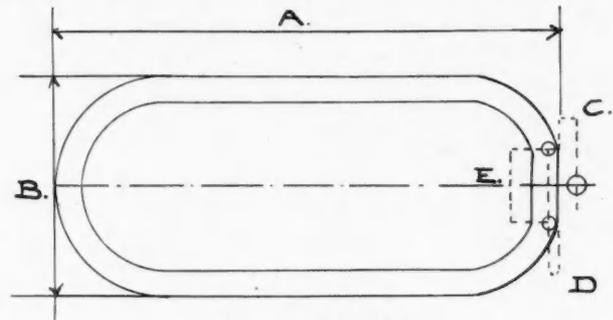

FIG. 505
- Fig. 505 is the same as 504 except the waste outlet